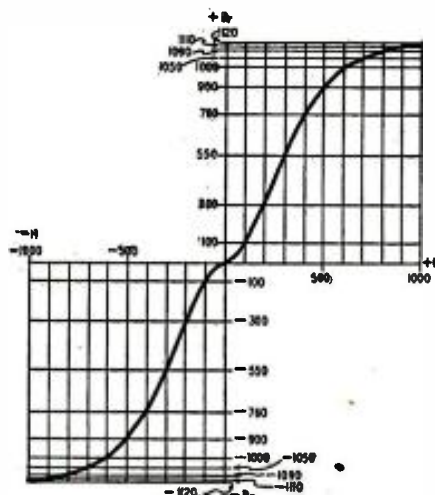
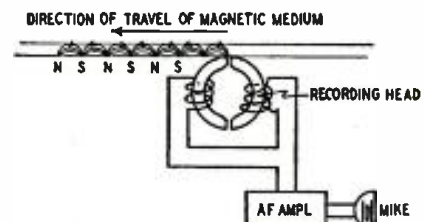
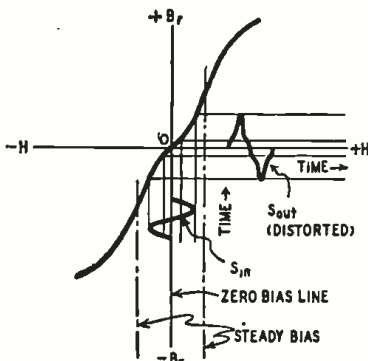

Fig. 2—Magnetization curve plots B_r versus H.
Fig. 3—How the signals are recorded on wire.
Fig. 5—Signal zeroed at center is distorted.
From Table 1 we make the upper right or positive portion of the graph of Fig. 2. The horizontal (X) axis is marked off in H units rather than current. The vertical (Y) axis shows the same B_r figures as the table.
Because of this, we can reproduce the original positive curve in the negative direction, using the same figures, but preceded by minus signs. The symmetrical result, shown in Fig. 2, is known as the complete retentivity curve. It gives us sufficient data for an understanding of magnetic recording and supersonic bias (sometimes called radio bias).
Fig. 3 shows a magnetic recording
The arrangement of Fig. 3 can be used for making recordings, but the distortion would be very pronounced. Fig. 5 (the B_r - H curve is a copy of that in Fig. 2) helps to show the reason. This is where the analogy with the vacuum-tube E_c - I_p curve is useful. Employing vacuum-tube graphical technique, we draw a sinusoidal input signal S_{in} , and then construct a corresponding output signal S_{out} . S_{out} is obviously badly distorted, due to the curvature of the B_r - H characteristic in the vicinity of the zero point.
Early experimenters realized that the input signal should be centered, not at the zero point, as in Fig. 5, but somewhere on the straightest portion of the magnetic curve. A *steady magnetic bias* analogous to the d.c. grid bias of a vacuum tube had to be superimposed on the a.f. signal so as to shift its axis to
one of the points indicated by the dashed lines in Fig. 5.